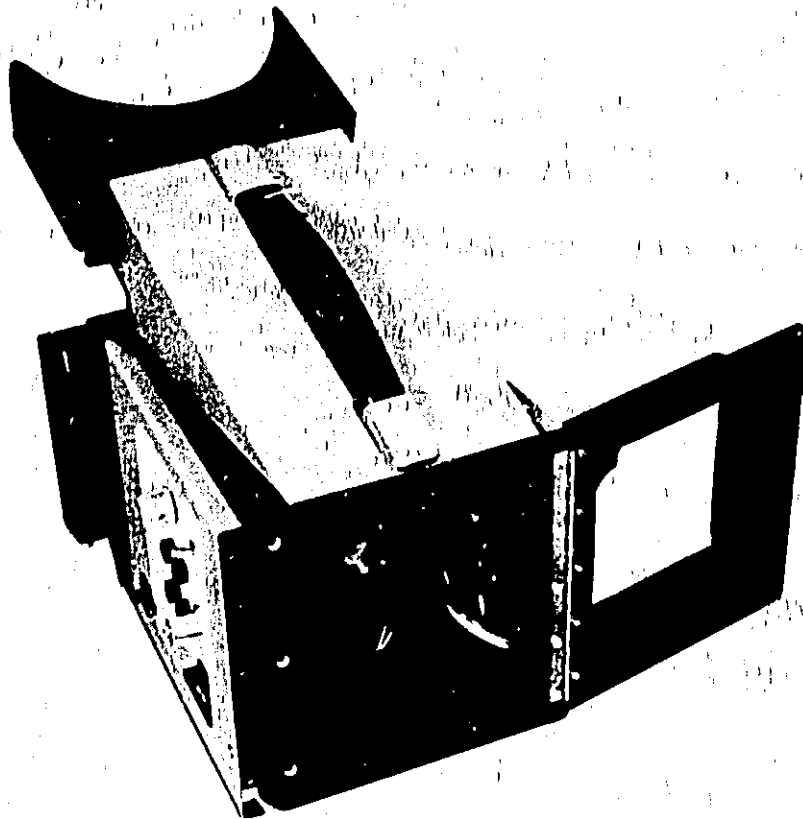

Figure 8-1. Right-hand Cover Removal
d. Remove three screws on left side of camera front ⑩ (for right hand cover).
e. Press front of right-hand cover ⑪ from inside of camera until cover is clear of camera frame, then pull forward to disengage cover from guide pins on rear of frame (See Figure 8-1).